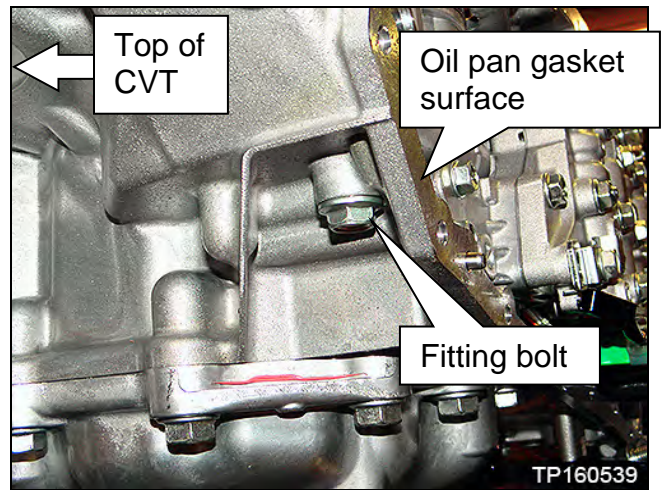

Figure 22B
- a. Remove the fitting bolt located above the corner of the oil pan gasket surface (Figure 22B).